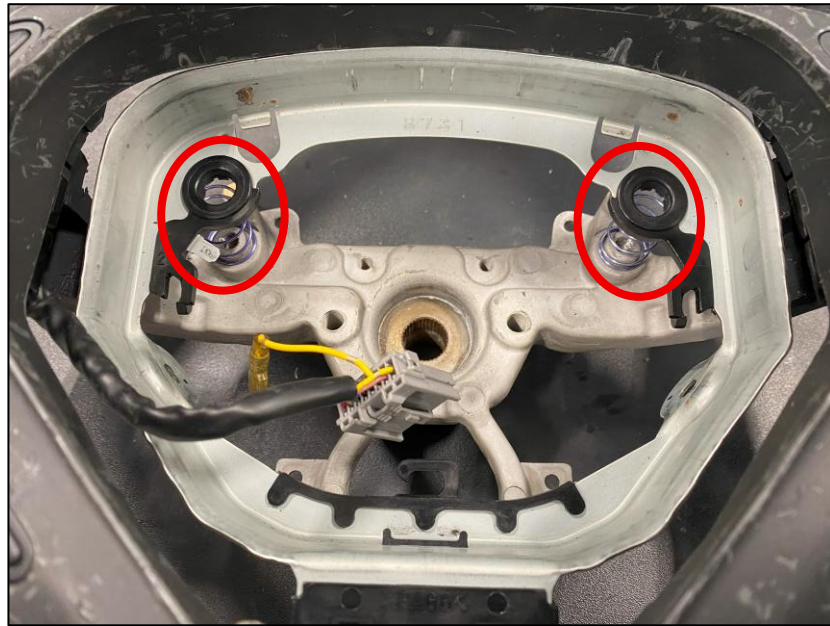

Figure 9
14. With the TORX Screws removed the Panel will raise up. Remove the Airbag Panel and the (2) two Springs below it. *Figure 9.*